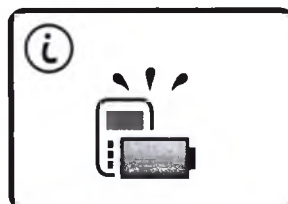

Figure 4.5 Recharger charging complete screen.
3. When the charging session is complete, the **Recharger charging complete** screen (Figure 4.5.) will appear.